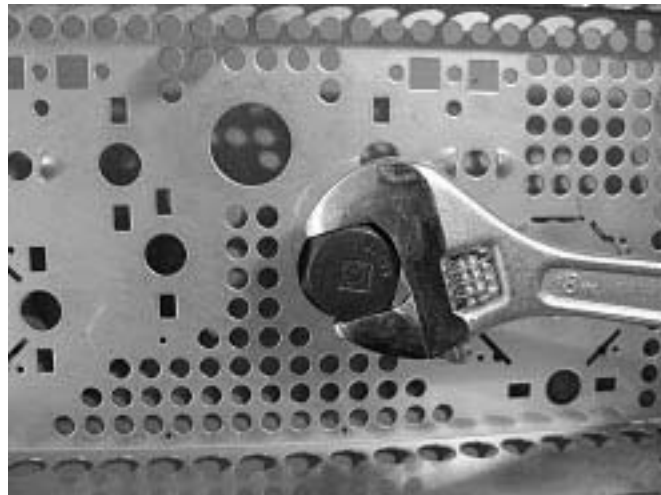

Figure 4 Using a Hole Punch to Modify the Sheet Metal
- Use hole punch and file to create the proper hole pattern (see Figure 4).